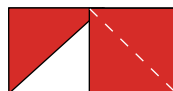
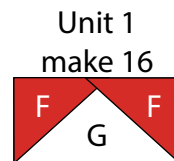
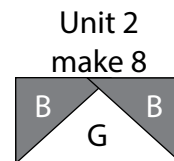

Fig. 4
Fig. 5
Fig. 6
3. Place another $2''$ Fabric F square on the right side of the $2'' \times 3\frac{1}{2}''$ Fabric G strip, right sides together (Fig. 4). Sew across the diagonal of the square from the upper left corner to the lower right corner (Fig. 4). Flip open the triangle formed and press. Trim away the excess fabric from behind the triangle, leaving a $\frac{1}{4}''$ seam allowance to make (1) Unit 1 strip (Fig. 5).
4. Repeat Steps 2-3 to make (16) Unit 1 strips total.
5. Repeat Steps 2-3 and refer to Figure 6 for fabric identification, placement and seam direction to make (8) Unit 2 strips.